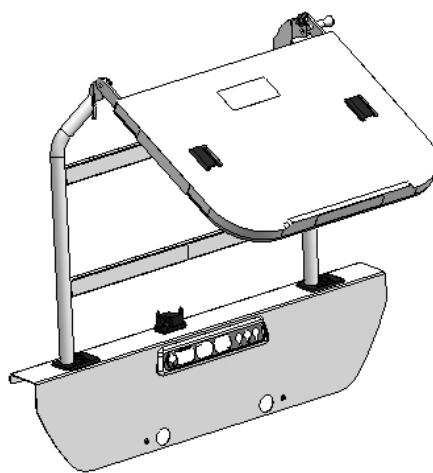

FIGURE 2
- To the left of the head/foot casing (Figure 2).
2. For the writing support position (Figure 2), lift the tray for about 30° and release the lock pin.